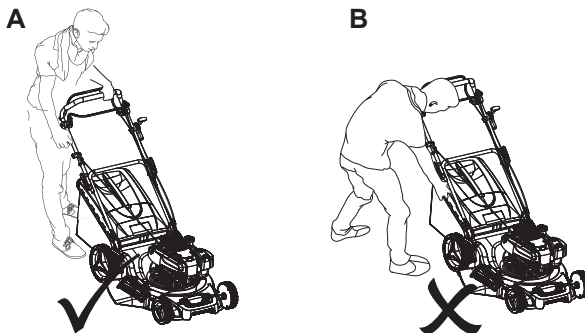

Fig. 25
Warning! The starting position should be as described in the instruction manual. Fig. 25 A illustrates the defined starting position. The operator should start the engine behind the upper grip handle (1). Do not start the engine while standing on the side of the product as shown on Fig. 25 B.